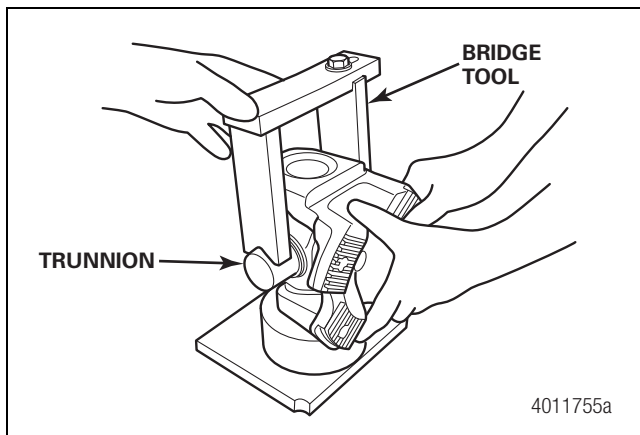

Figure 4.57
- Place the drive flange in the receiver cup. Install the press bridge tool on the trunnions. Figure 4.57.